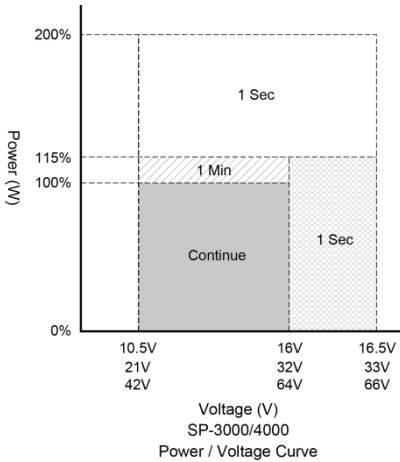
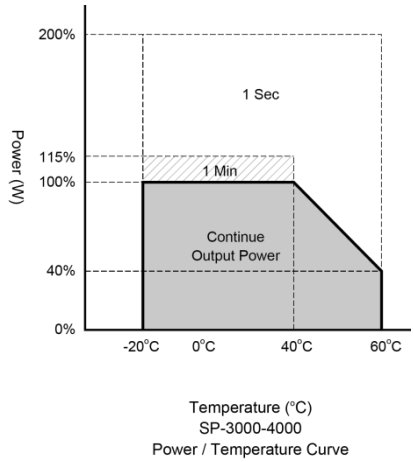

Figure 3. SP-3000/4000
Figure 4. SP-3000/4000
- ① Voltage range : Please refer to Figure 3
- ② Normal load Condition : Vin =12.5V/25V/50V, Vo=200/220/230/240 VAC 80% load (PF=1.0)
- ③ Operating temperature : Please refer to Figure 4
- ④ **Warning** : This is a class A product. In a domestic environment this product may cause radio interference in which case the user may be required to take adequate measures.
- ② Normal load Condition : Vin =12.5V/25V/50V, Vo=100/110/115/120 VAC 80% load (PF=1.0)
- ② Normal load Condition : Vin =25V/50V, Vo=200/220/230/240 VAC 80% load (PF=1.0)